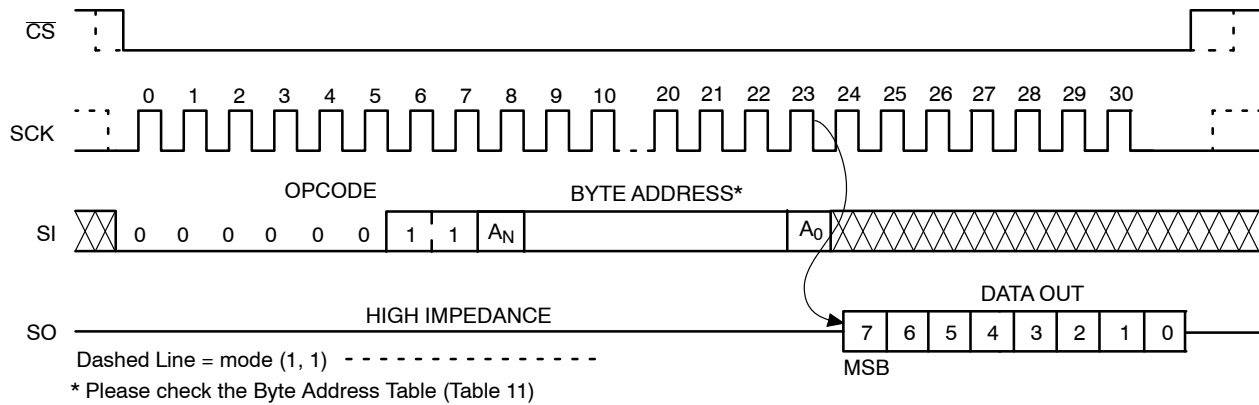

Figure 9. READ Timing
After receiving the last address bit, the NV25256 will respond by shifting out data on the SO pin (as shown in Figure 9). Sequentially stored data can be read out by simply continuing to run the clock. The internal address pointer is automatically incremented to the next higher address as data is shifted out. After reaching the highest memory address, the address counter “rolls over” to the lowest memory address, and the read cycle can be continued indefinitely. The read operation is terminated by taking $\overline{CS}$ high.
Reading the additional 64-byte Identification Page (IP) is achieved using the same Read command sequence as used for Read from main memory array (Figure 9). **The IPL bit from the Status Register must be set (IPL = 1) before attempting to read from the IP.** The [A5:A0] are the address significant bits that point to the data byte shifted out on the